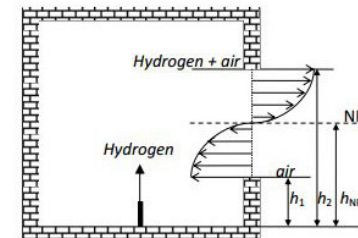

Figure 1. Flow velocity through the vent for a case when neutral plane is between the lower edge and half height of the vent.
Figure 1 – Dimensionless (conservative) correlation for hydrogen jet fires (in form also shown in figure “X” denotes the similarity group  $(p_1/p_1) \cdot (U_0/C_0)^2$  (Malikov & Buffers, 2010)
The neutral plane (NP) is a horizontal plane where pressure inside and outside an enclosure are equal. In general case of passive ventilation of the enclosure with release of gas lighter than air, the neutral plane is located at or below the half height of the vent for steady-state conditions. Below NP air enters the enclosure and above NP lighter hydrogen-air mixture exits the enclosure (Fig. 1, left).